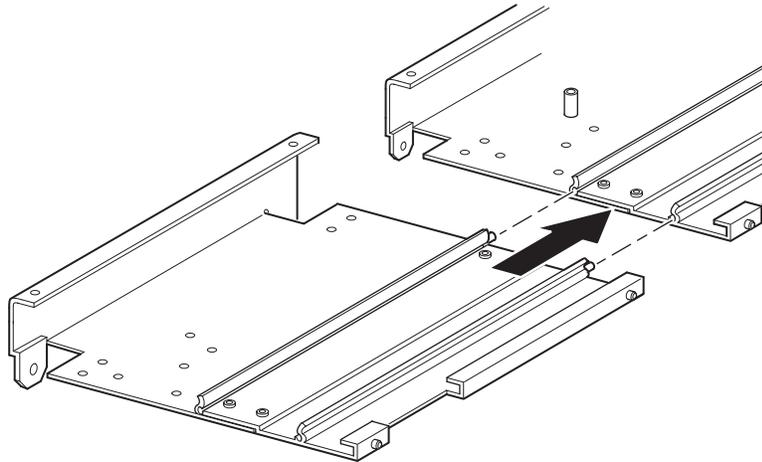

Figure 2–14: Mounting a 5U or 10U extension
- b. Align the pins of the two narrow tie bars with the holes in the extension and PTM base unit (see Figure 2–15) and then attach them using four mounting screws (two screws for each narrow tie bar).